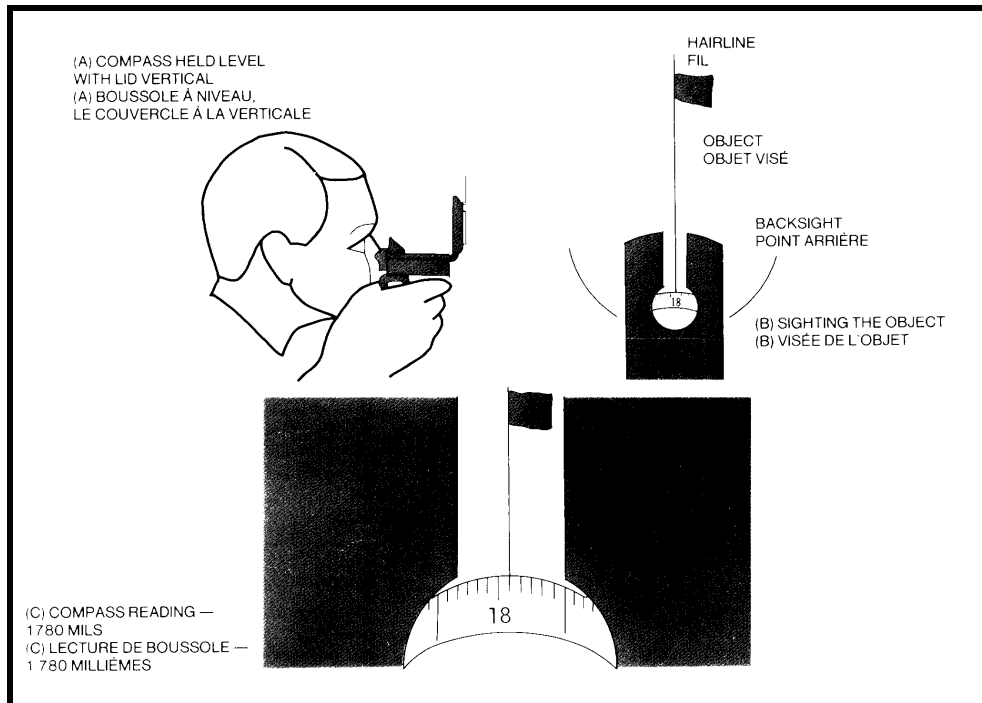

Figure 8-3 Compass Reading
2. To take a bearing, look through the sighting slot on top of the prism and line up the hairline on the lid with the object on which the bearing is to be taken. At the same time, observe through the eyehole the readings on the card. When the card comes to rest, read off the bearing against the hairline. A bearing to the nearest 20 mils can be read without difficulty. Readings increase from right to left as seen through the prism. See Figure 8-3. It helps if the hand or elbows can be rested on a firm object, but avoid any metallic object that would attract the compass (see art 808).